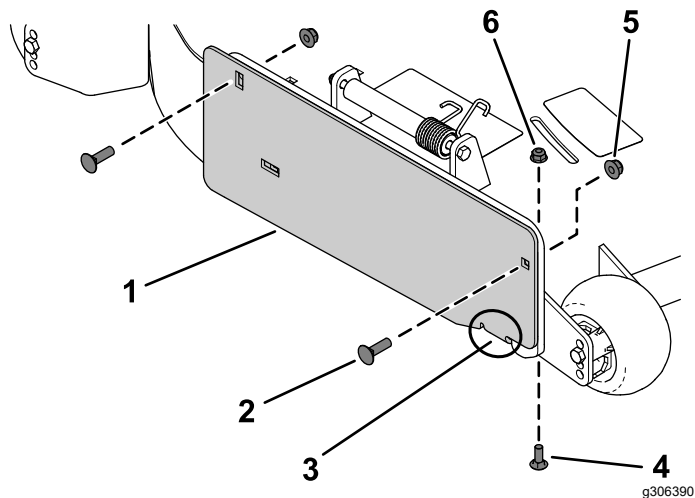

Figure 2
1. Secure the discharge cover plate to the outside of the mounting bracket using 2 carriage bolts (3/8 x 1-1/4 inches) and 2 locknuts (3/8 inch) as shown in Figure 2.
2. Secure the tab to the inside of the mower deck using 1 carriage bolt (5/16 x 7/8 inch) and 1 flange nut (5/16 inch) as shown in Figure 2.